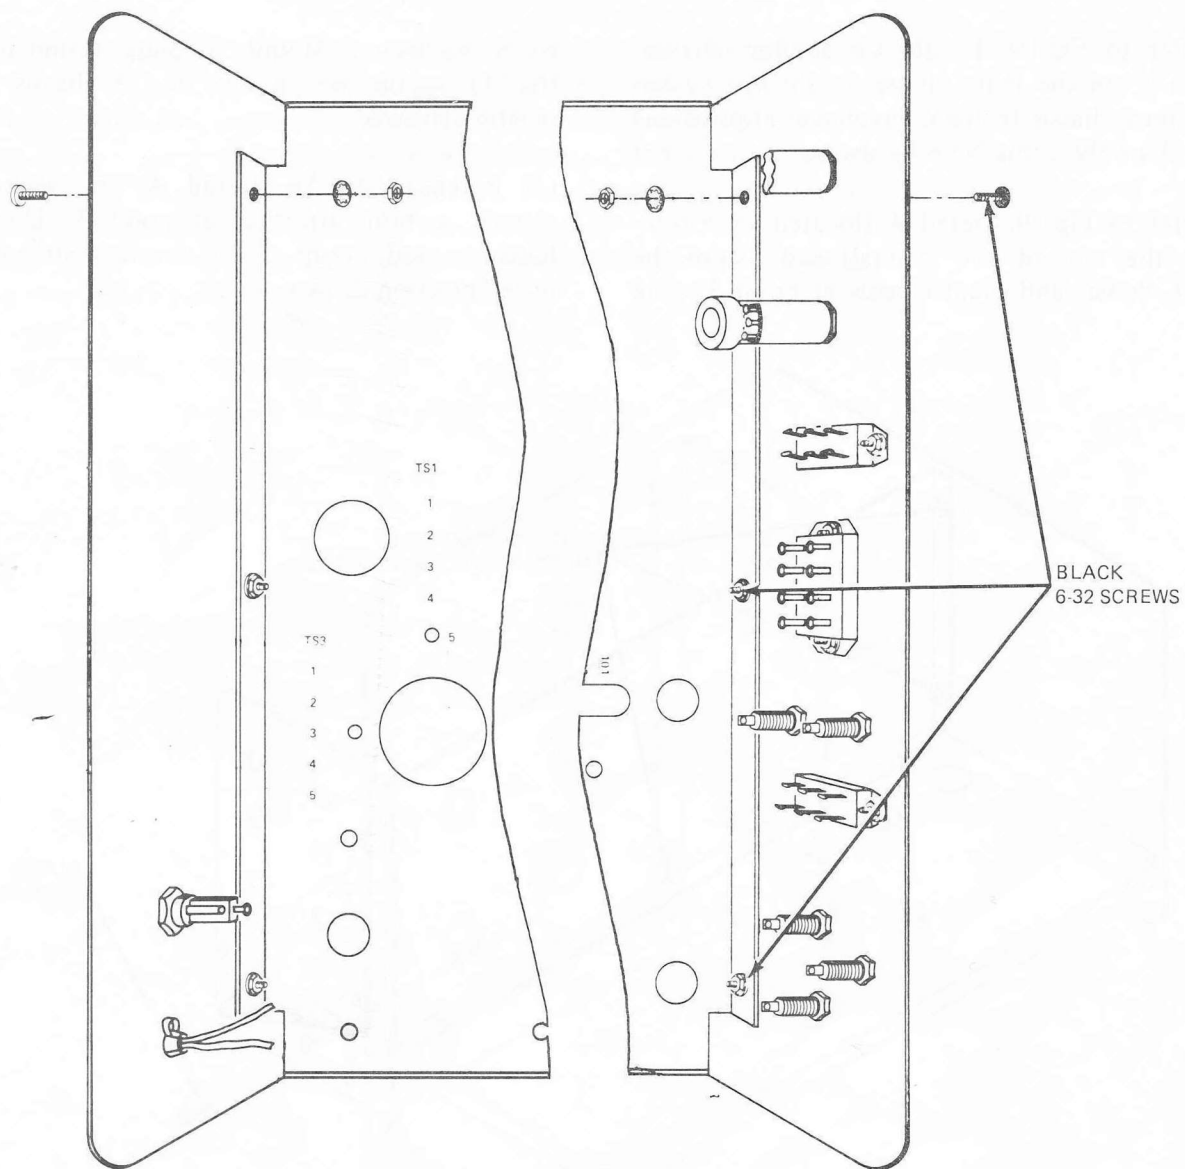

Figure 18. Mounting the front and back panel assemblies to the main chassis.
Refer to Figs.18 and 19 and their accompanying details to complete the following steps.
(1) Locate the front panel assembly and the main chassis. Position the two sections as shown in Fig.18. Fasten the two sections together as shown using No.6 hardware with black Phillips-head screws. Tighten the nuts securely ()
(2) Locate the back panel assembly. Position the back panel as shown and fasten it to the chassis using No.6 hardware. Tighten the nuts securely ()